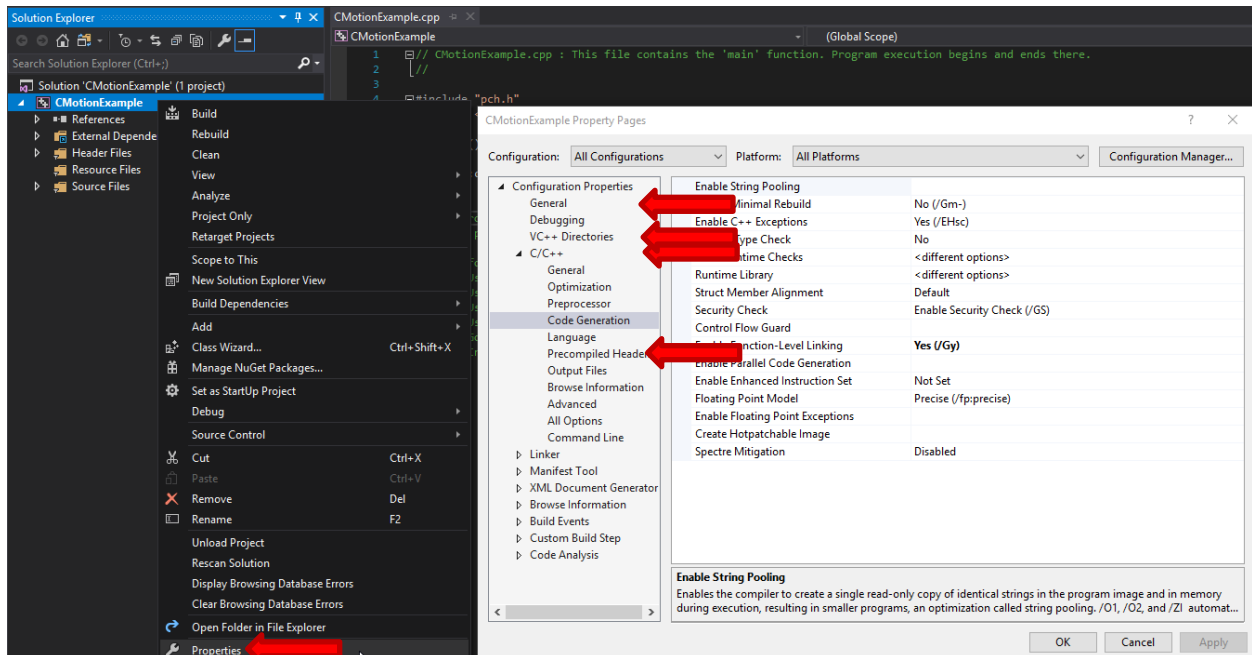

Figure 52 - VS2017 Project Properties
- 5) Project Properties need to be modified, right click on the project name in the solution explorer view and select properties – be sure to select all configs and all platforms per Figure 52 - VS2017 Project Properties